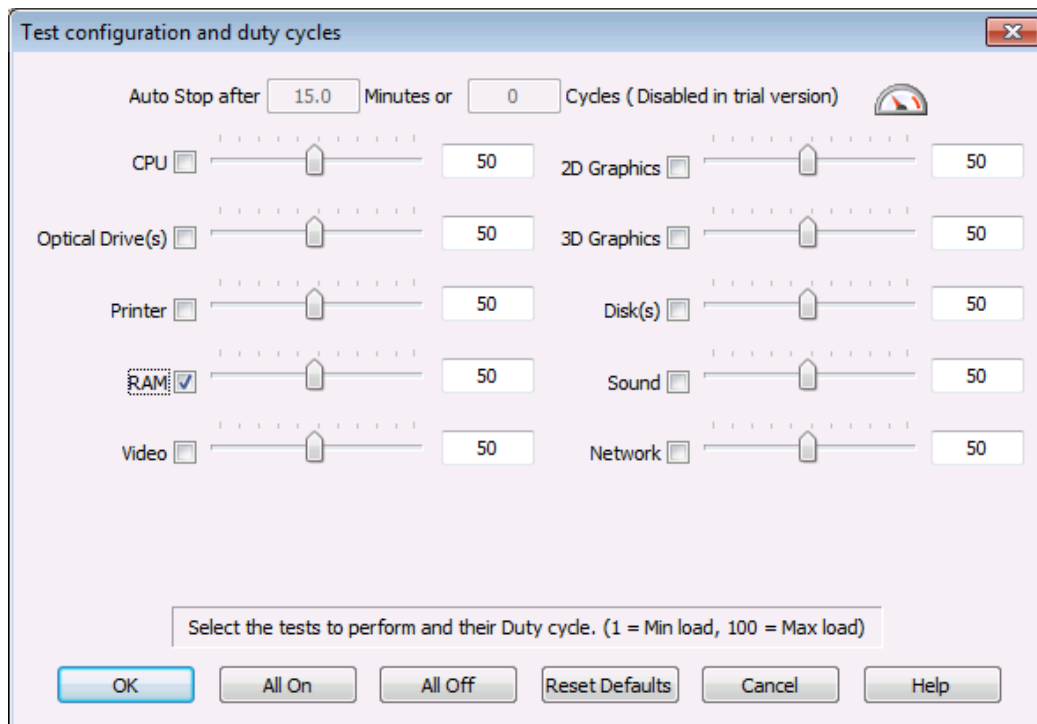

Figure 5.9
- Check on "RAM" and other subjects unchecked. The window becomes (see Fig.5.9):